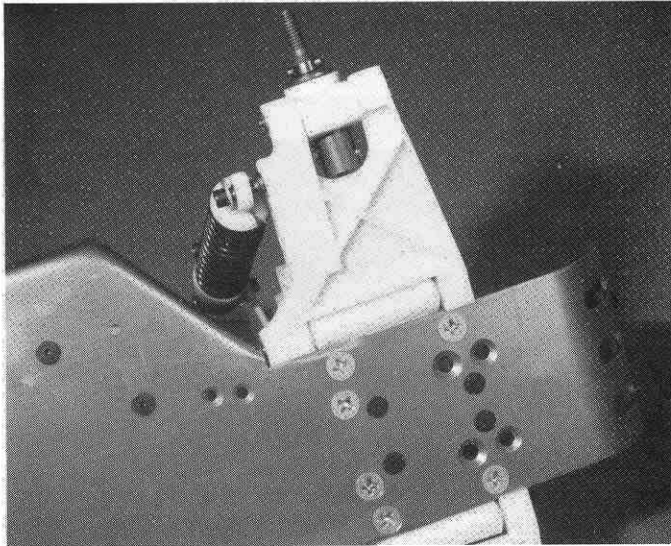

Fig. 115
□ **Fig. 115** For the shock bottom installation we want the flat part of the metal ball end to be against the A- arm, as shown. In the A-arm, there are four holes. Install it in the outside hole, as shown. Slip a #6936 #4 flat washer on the #6927 4/40 x 3/4" SHCScrew, and install the screw through ball and into the arm.